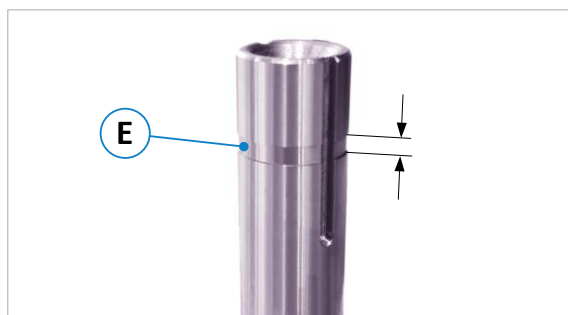

Figure 15: Marking for upper spacer ring
4. Put on the required spacer rings (**D**), if necessary. Place enough spacer rings so that the upper clamping surface of the upper ring is in the area (**E**) of the marking groove shown in ⇨ Figure 15.